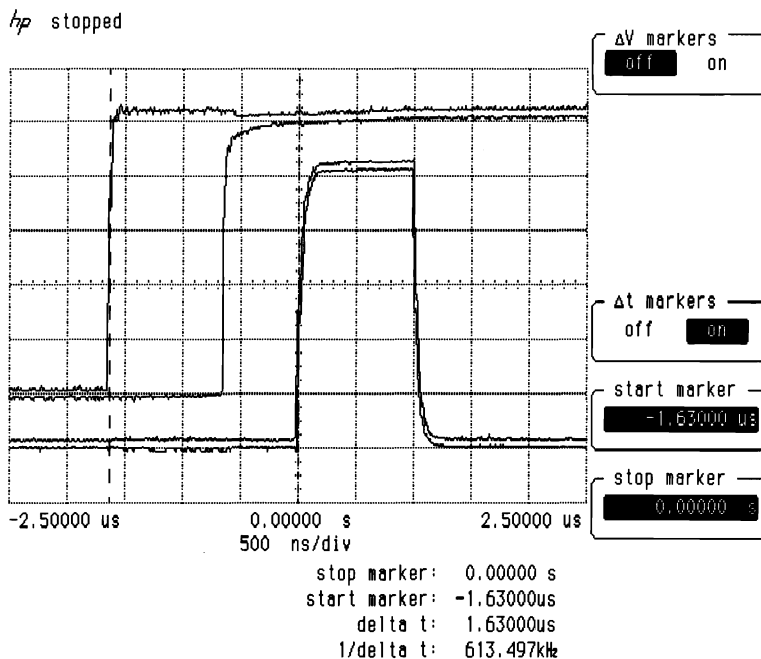

Figure 2-104. Oscilloscope Display of Minimum and Maximum Gate Delay Values
7. On the oscilloscope, press **start marker**. Use the knob to position the start marker on the right edge of the upper trace on the oscilloscope display. Figure 2-104 shows position for maximum gate delay.